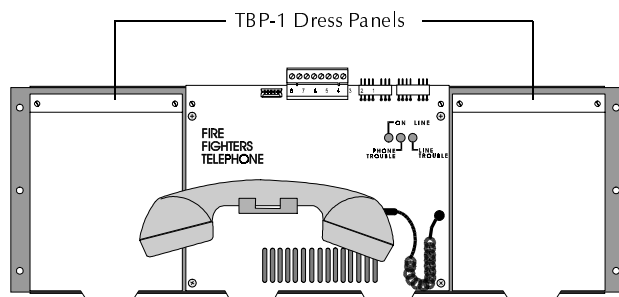

Figure 4-7 FFT-7S with Dress Panels
3. Mount TBP-1 dress panels on the FFT-7S as shown in Figure 4-7: